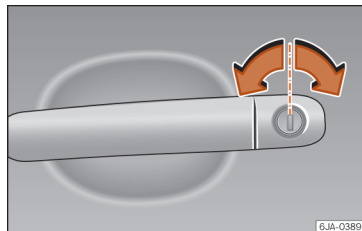

Fig. 4 Driver-side door handle with lock cylinder.
- Insert the key shaft into the lock cylinder to unlock or lock the vehicle » **Fig. 4**.